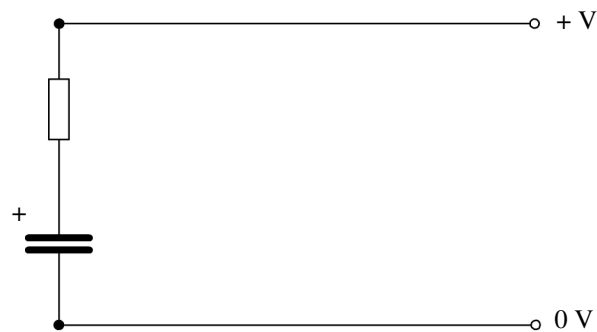

Figure 2(b)
- (d) (i) Construct a logic circuit of the set-reset flip-flop as shown in Figure 2(c) using two NAND gates. (4 marks)